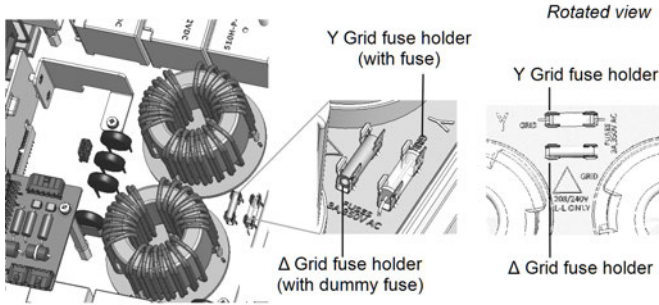

Figure 21: Fuse locations and markings
To set the inverter for 3-wire grid connection, you must move the fuse from the 4-wire fuse holder, marked as Y GRID, to the 3-wire fuse holder, marked as Δ GRID (see *Figure 21*).
2. Identify the fuse locations and the markings as described in Figure 21.